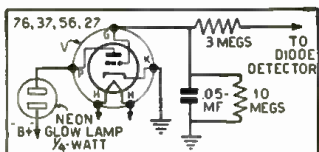

Fig. 3. Neontuning indicator.
**TUNING INDICATOR.** This very sensitive circuit, shown in Fig. 3, may be used where other types of indicators do not give sufficient change to be of any use. For use on high-fidelity sets, receiving strong locals, a 2-meg. resistor in place of the 10-meg. unit shown will give extremely sharp resonance indication. The neon lamp may be used as a pilot bulb or as any other sort of indicator desired.